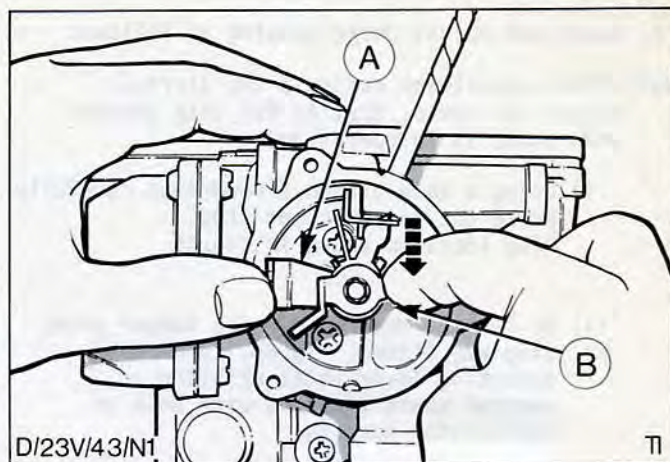

Fig.72. Choke held at pull down/fast idle setting.
- iv) Push vacuum piston to the bottom of its travel and hold choke lever fully clockwise. Refer Fig.72.